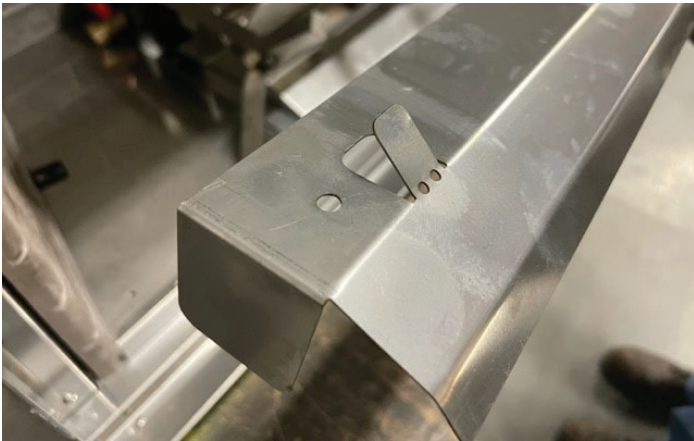

Figure 4
6. Install replacement hood and tighten (4) screws to secure.
7. To install Lower Hood, bend (4) hand tabs on Lower Hood up at approximately 30 degrees. See Figure 4.